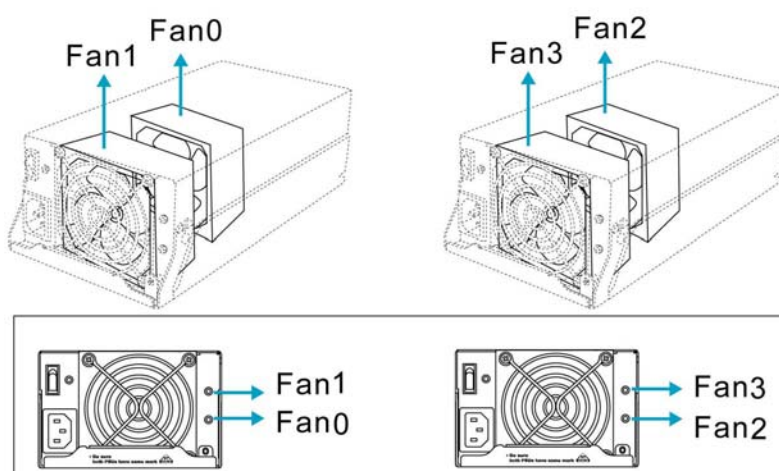

Figure 4-9: Cooling Module LEDs and Cooling Fan Locations
Each cooling module has two (2) red LEDs located on the PSU module. Each LED corresponds to an individual cooling fan. (See *Figure 4-9*) Please refer to the cooling module LED definitions shown in *Table 4-9*.